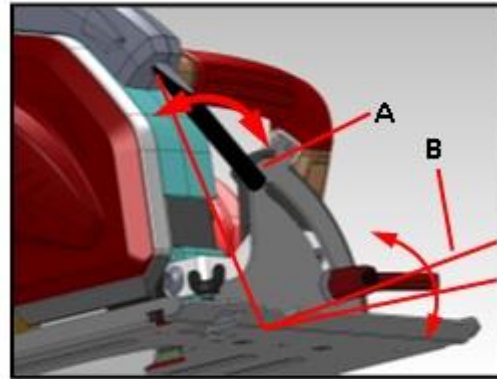

Fig.12
2. Use a small flat blade screw driver to tighten or loosen the the direction adjustment screw (B) to align the laser beam with the actual cut line. **Fig.12.**